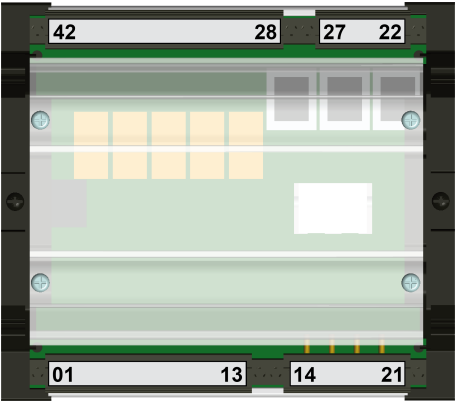

Fig. 7: Plastic housing
- Plastic housing - shown in Fig. 7